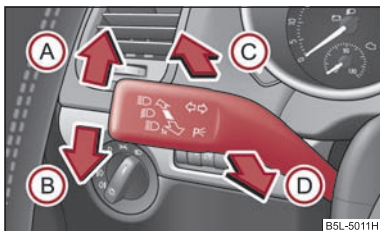

Fig. 43 Turn signal and main beam lever
- Push the lever upwards (A) or downwards \Rightarrow fig. 43 (B).